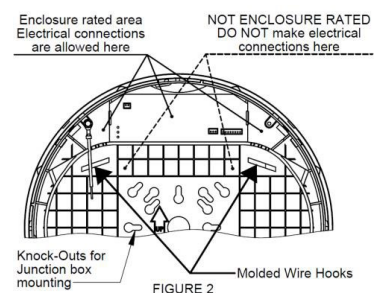

FIGURE 2
4. Connect power supply and ground in accordance with local codes. Wire connections as follows: 277VAC line to Orange lead or 120VAC line to Black lead; Neutral to White lead. Ground to Green wire; Cap unused line lead (see Schematic on next page). Connections must be in the enclosure rated area of the frame (See Figure 2) or junction box, not in the sign face. Make sure wires are routed so they do not create shadows on the face of the exit. Two wire hooks are molded into the back-plate to aid in securing the wires. (See Figure 2).
8. Feed the wires through the canopy and connect power supply and ground in accordance with local codes. Wire connections as follows: 277VAC line to Orange lead or 120VAC line to Black lead; Neutral to White lead. Ground to Green wire; Cap unused lead. Connections must be in the enclosure rated area of the frame (See Figure 2) or junction box, not in the sign face. Make sure wires are routed so they do not create shadows on the face of the exit.